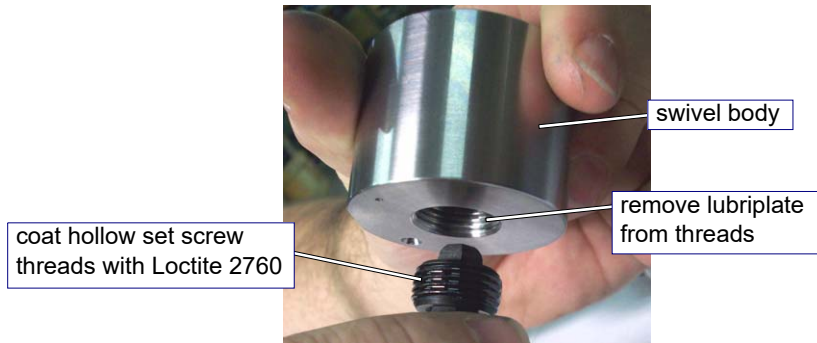

Figure 74
6. Coat the threads of the **hollow set screw** with Loctite 2760, Figure 74.